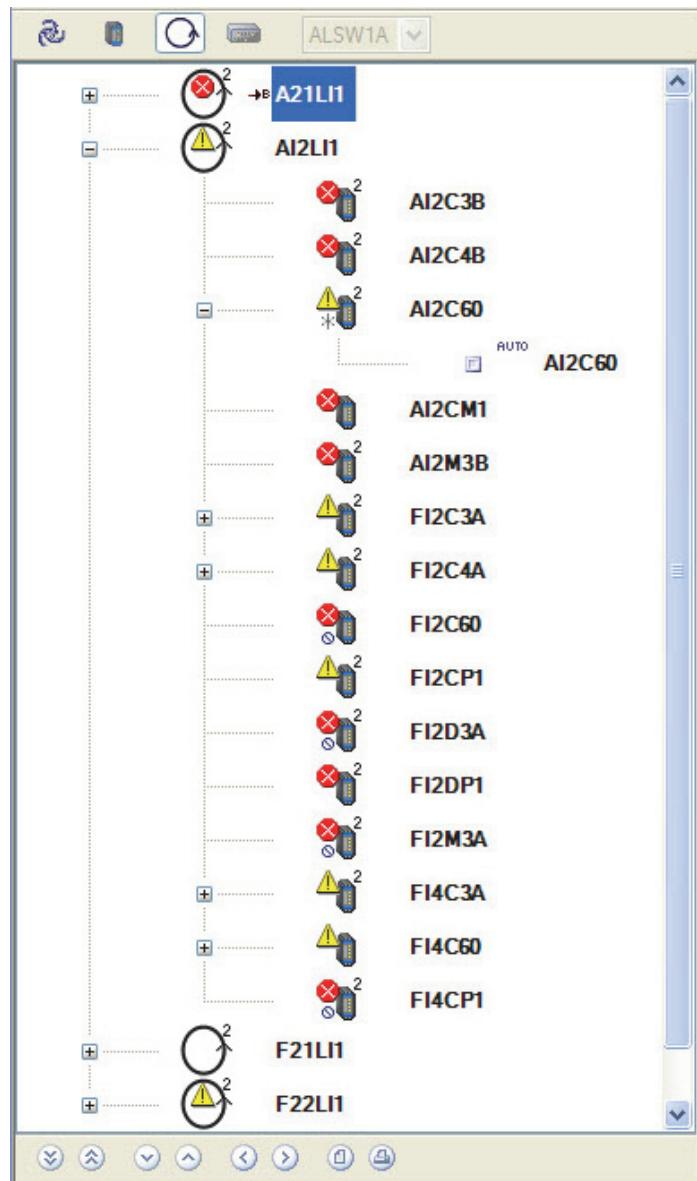

Figure 1-22. Navigation Pane the LAN Interface View
At the highest level, the LAN Interface (LI) View displays all configured LAN Interface modules as shown in Figure 1-22. At the next level, the LAN Interface view reveals all the stations residing in a particular node. When no LIs are configured on the Control Core Services network, the LI button on the navigation tool bar and the LAN Interface view will be disabled. The order of LIs shown in this display does not indicate the order of physical connections on the bus.